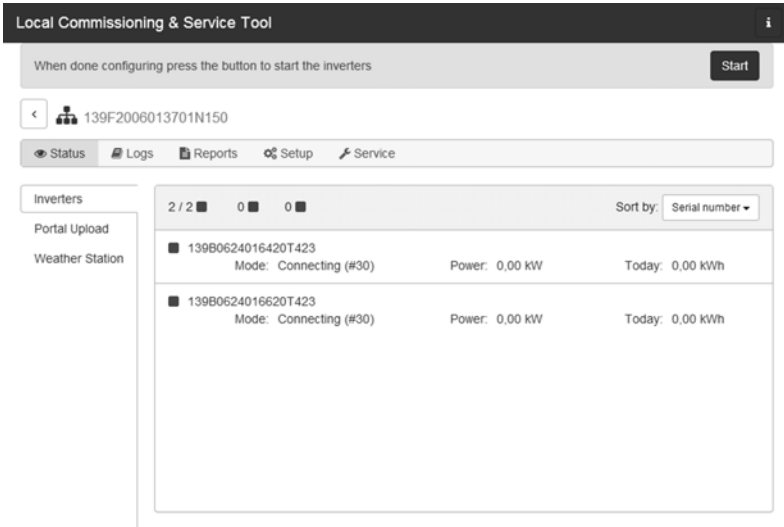

Figure 14: LCS-Tool - list of all inverters connected to the Inverter Manager
11. A green square identifies the commissioned inverters. The inverters are only connected to the utility grid when the **[Start]** command has been carried out from the bar below the start menu (see figure 14).